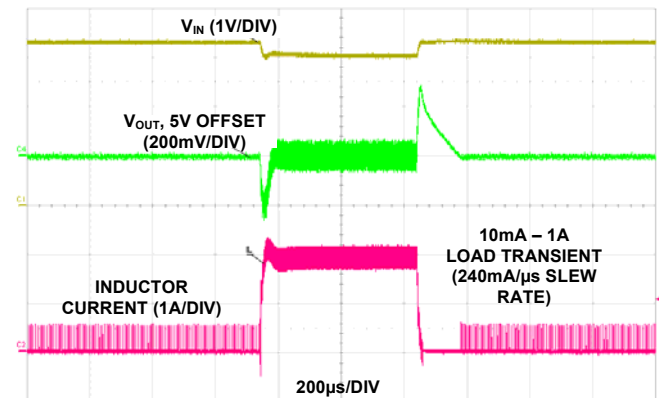

FIGURE 3. ISL91117 LOAD TRANSIENT AT  $V_{IN} = 3V$  AND  $V_{OUT} = 5V$
12. Set the electronic load to constant current dynamic mode with 10mA to 1A pulse,  $t_{ON} = 500\mu s$ . Check the load transient response as shown in Figure 3.